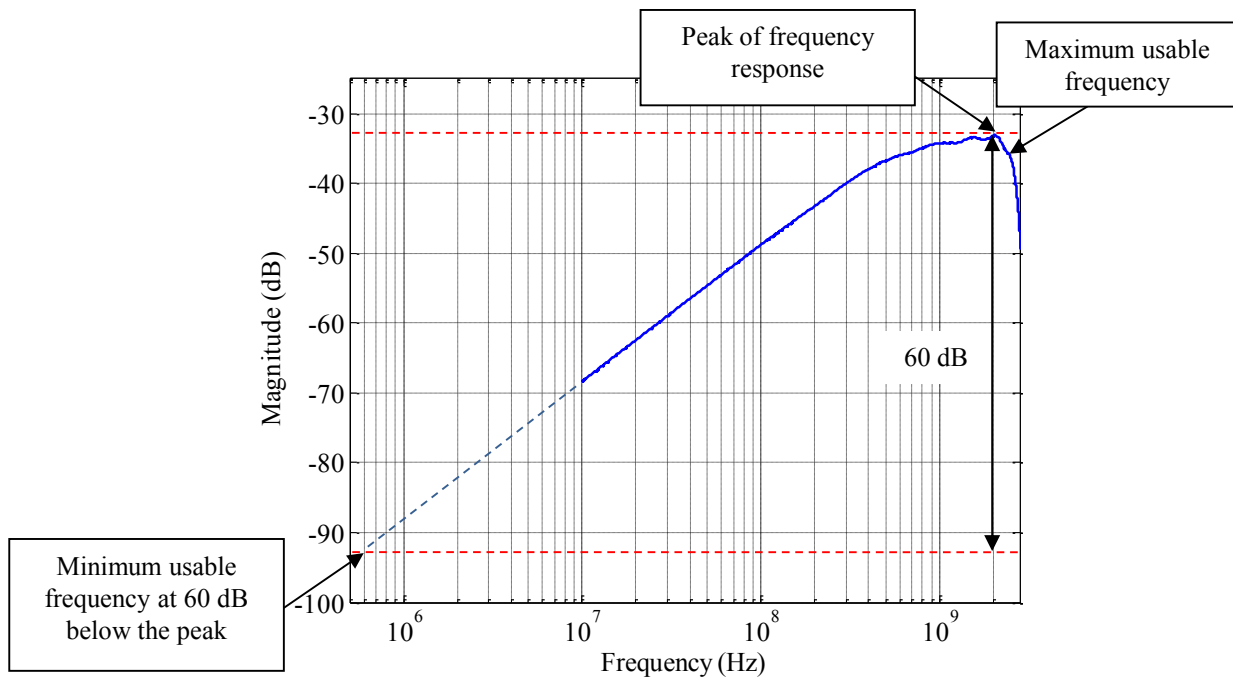

Figure 5: Frequency response of an EMI probe and the method for measuring minimum and maximum usable frequency of the probe.
*The minimum usable frequency is determined by finding the frequency at which the magnitude of the response drops 60 dB below the maximal value. For example, Figure 5 shows that in a specified frequency band of interest (e.g. 10 MHz to 2.5 GHz), the maximum sensitivity is about -33 dB at 2.1 GHz when probe is 1 mm above a 50 Ω trace. By looking at the frequency at which magnitude drops by 60 dB, the magnitude is about -93 dB. From the slope of 20 dB/dec, the frequency for -93 dB is approximately at 600 KHz. An estimation of 60 dB dynamic range for this EMI probe is from 600 KHz to 2.5 GHz.